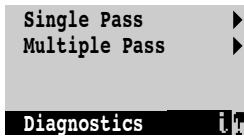

FIGURE 5-8 Video Diagnostics single pass or multiple pass
- Select **Single Pass** or **Multiple Pass** at the screen shown in Figure 5-8.